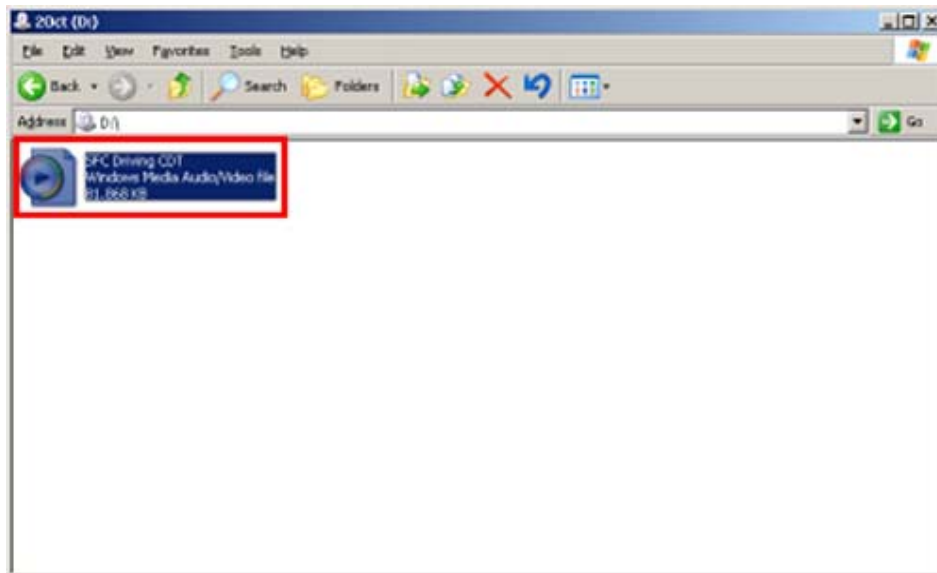

Figure 163. AAR – Selecting File to Burn to CD
8. Highlight and right-click the file(s) to be burned to the CD (Figure 163). A dropdown menu appears.